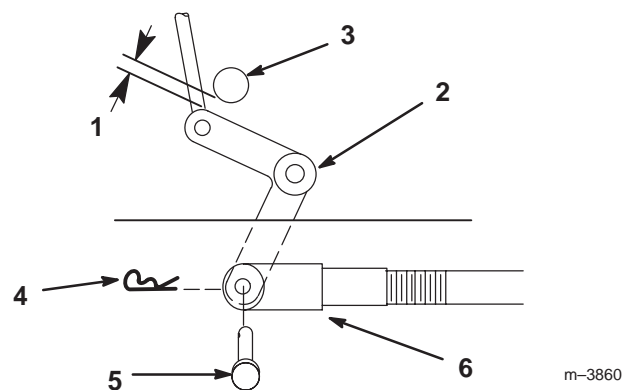
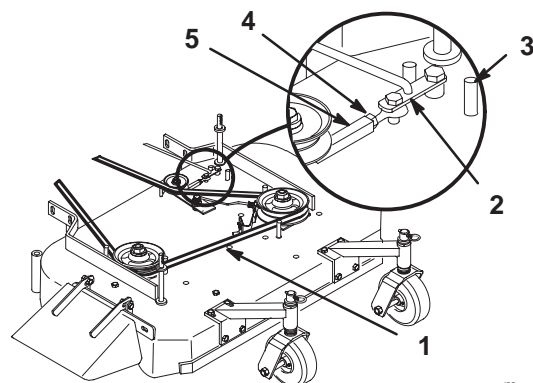

Figure 47
Figure 48
7. Engage PTO lever and check the clearance between the bellcrank and the transmission output shaft (Fig. 47). Space should be 1/16"–1/8" (2–3mm).
8. Remove hairpin cotter and clevis pin from bellcrank. Rotate clevis clockwise on rod to increase or counterclockwise to decrease clearance (Fig. 47).
9. Disengage the PTO. If the assist arm does not contact the front stop on the mower deck (Fig. 48), readjust the clevis to bring the bellcrank closer to the transmission output shaft (Fig. 47).
2. Loosen locknut on turnbuckle (Fig. 48).
3. Rotate turnbuckle toward rear of mower to increase tension on belt. Rotate turnbuckle toward front of mower to decrease tension on belt (Fig. 48).